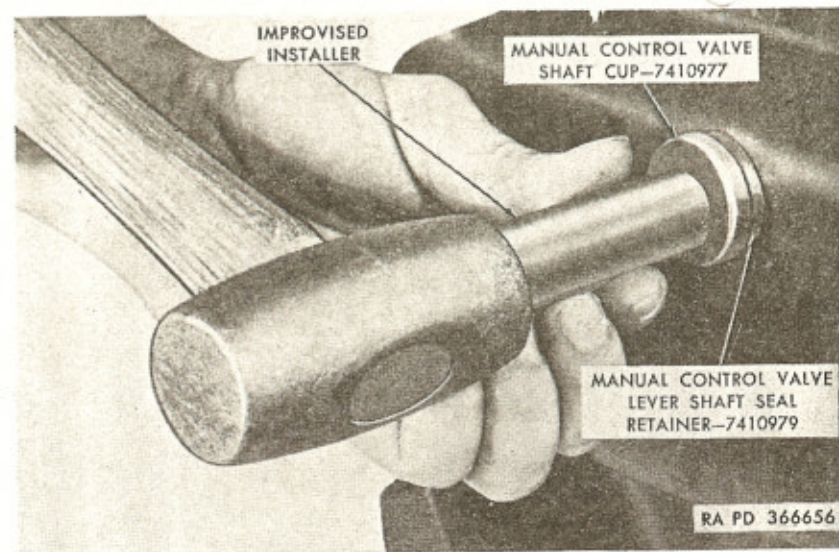

Figure 210. Installing manual control valve shaft seal retainer snap ring with improvised installer.
f. Install manual control valve lever shaft seal retainer snap ring on shaft, using improvised installer (par. 11). Tap snap ring into place with improvised installer (fig. 210) and hammer.